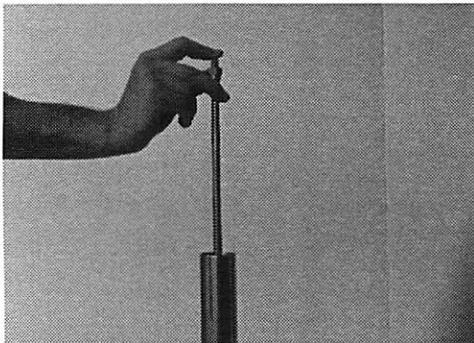

Figure 5.11
*Note: Keep your finger over the end of the cartridge stem to prevent the damper valve from being lost. (Figure 5.11)*